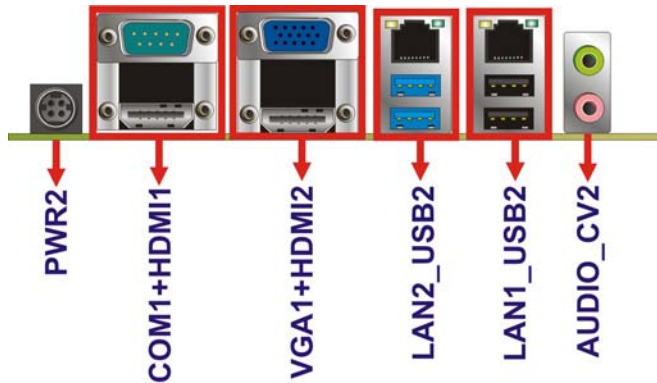

Figure 3-27: External Peripheral Interface Connector
Figure 3-27 shows the KINO-SE-i2 external peripheral interface connector (EPIC) panel. The EPIC panel consists of the following:
CN Location: See **Figure 3-27**
- CN Location: See **Figure 3-27**